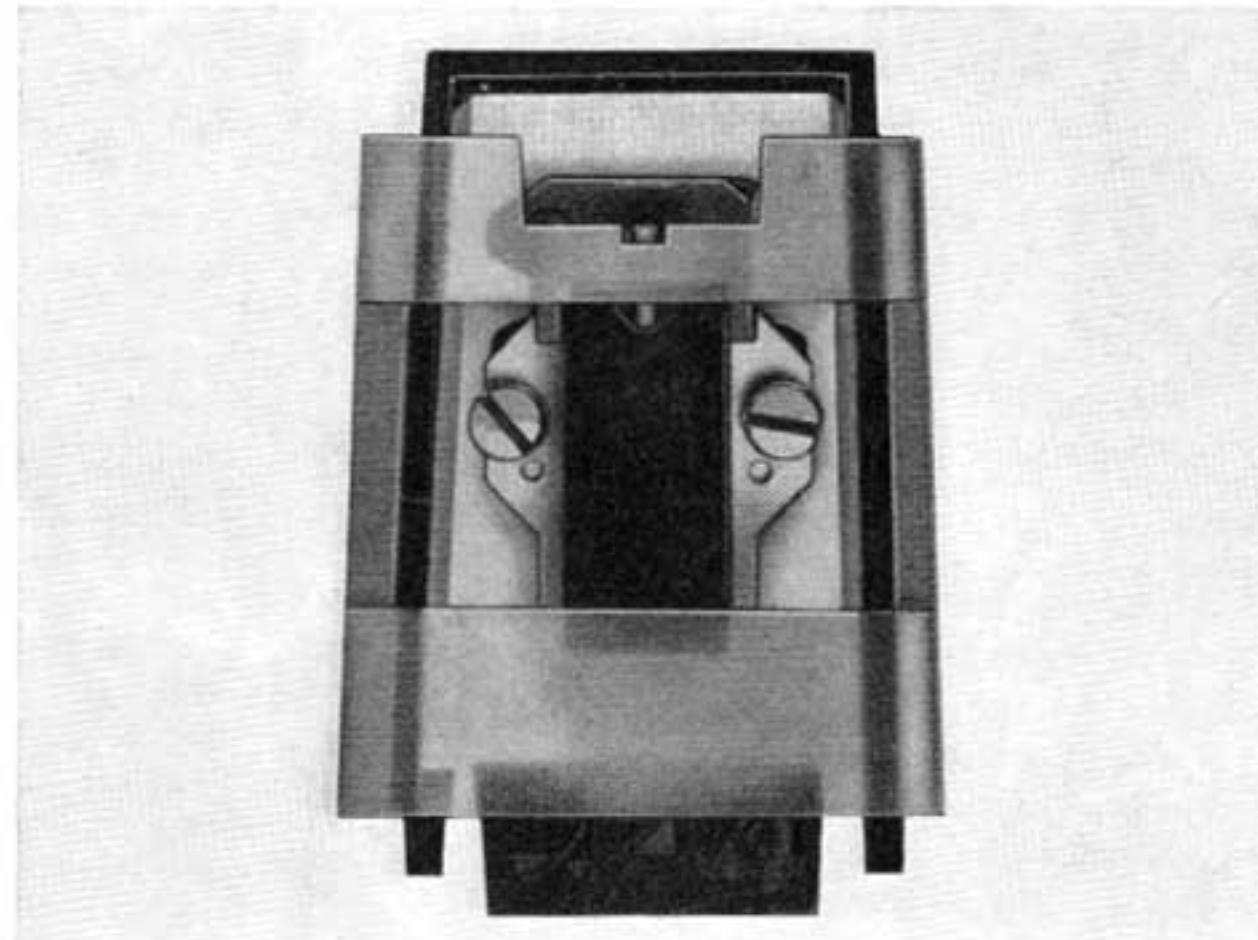

Fig. 20
3. Das Tonabnehmersystem ist richtig montiert, wenn die Aussparung der Montagelehre den Abtaststift des Tonabnehmersystems umschließt (Fig. 20).
2. From the hardware supplied with either your Dual or with your cartridge, select a pair of spacers and screws that will provide a maximum of  $1\frac{3}{16}$ " (21 mm) from tip of stylus to top of holder. The special gauge supplied with your Dual, when snapped on to the holder, will give you this maximum depth, plus the correct stylus overhang positions for minimum tracking error. (When the stylus is correctly spaced and positioned, it will be centered in the notch as shown in Fig. 20. Be sure that the cartridge is positioned parallel to longitudinal axis of cartridge holder.)
3. La cellule est montée correctement lorsque la pointe de lecture est entourée du regard pratiqué à cet effet dans le gabarit de montage (figure 20).
3. El montaje será correcto cuando la aguja se encuentre en la abertura del calibre (fig. 20).